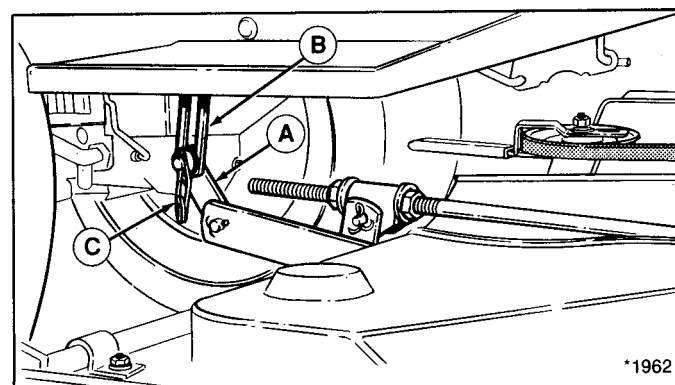

Figure 16.
5. Disconnect mower lift arm (A, figure 16) from tractor lift arm (B) by removing safety clip (C) and flat washer from weld stud. Reinstall washer and clip on mower lift arm for storage.